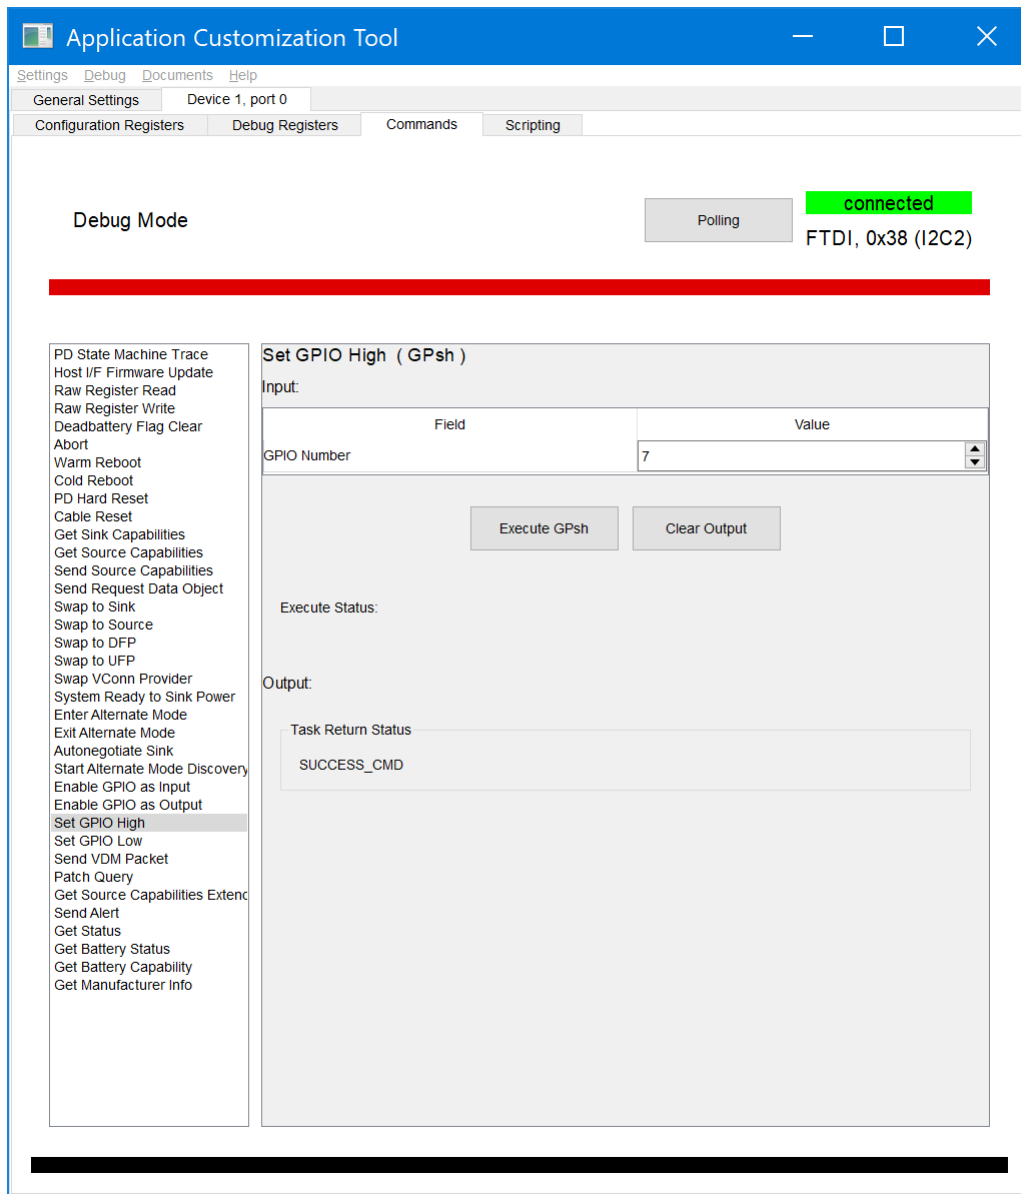

Figure 16. Using 'GPsh' 4CC Command
- Then send 'GPsh' 4CC command as shown in Figure 16.